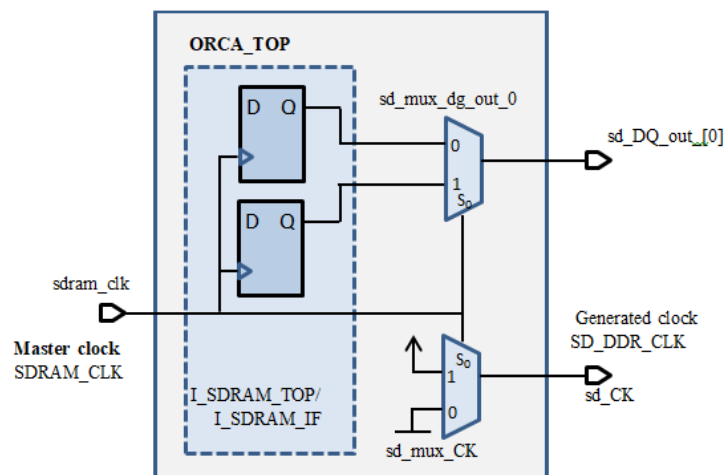

Figure 1. SDRAM interface
- ✓ Figure 1 shows the **SDRAM** interface. The clock **SDRAM_CLK** is connected directly to the select pins of muxes, which in turn will drive the output ports of the **ORCA_TOP** block.
- ✓ In the view window that should still be open, notice that just above and below the **sd_CK** line, the MUX select pins described in Figure 1, **I_SDRAM_TOP/I_SDRAM_IF/sd_mux_CK*/S0**, are, in fact, also implicit ignore pins.